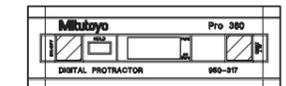

FIG. 1
- The DIGITAL PROTRACTOR faces you and white lettering on the face is right-side up. (See Fig.1)